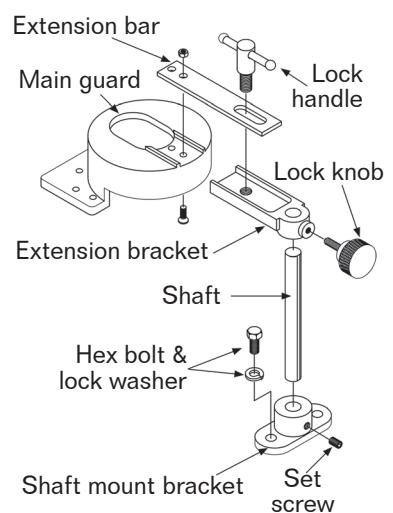

Fig 16. Guard assembly
- Attach the shaft mount bracket (See Figure 16) to the back of the table with the hex bolts and lock washers already mounted to the table.
- Insert the shaft (Figure 16) into the bracket so the flat surface faces away from the machine.
- Slide the extension bracket (Figure 16) through the shaft and secure it with the lock knob.
- Using the two 5/16" -18 x 3/4" flat head screws and hex nuts, tightly secure the extension bar to the main guard. See Figure 16.